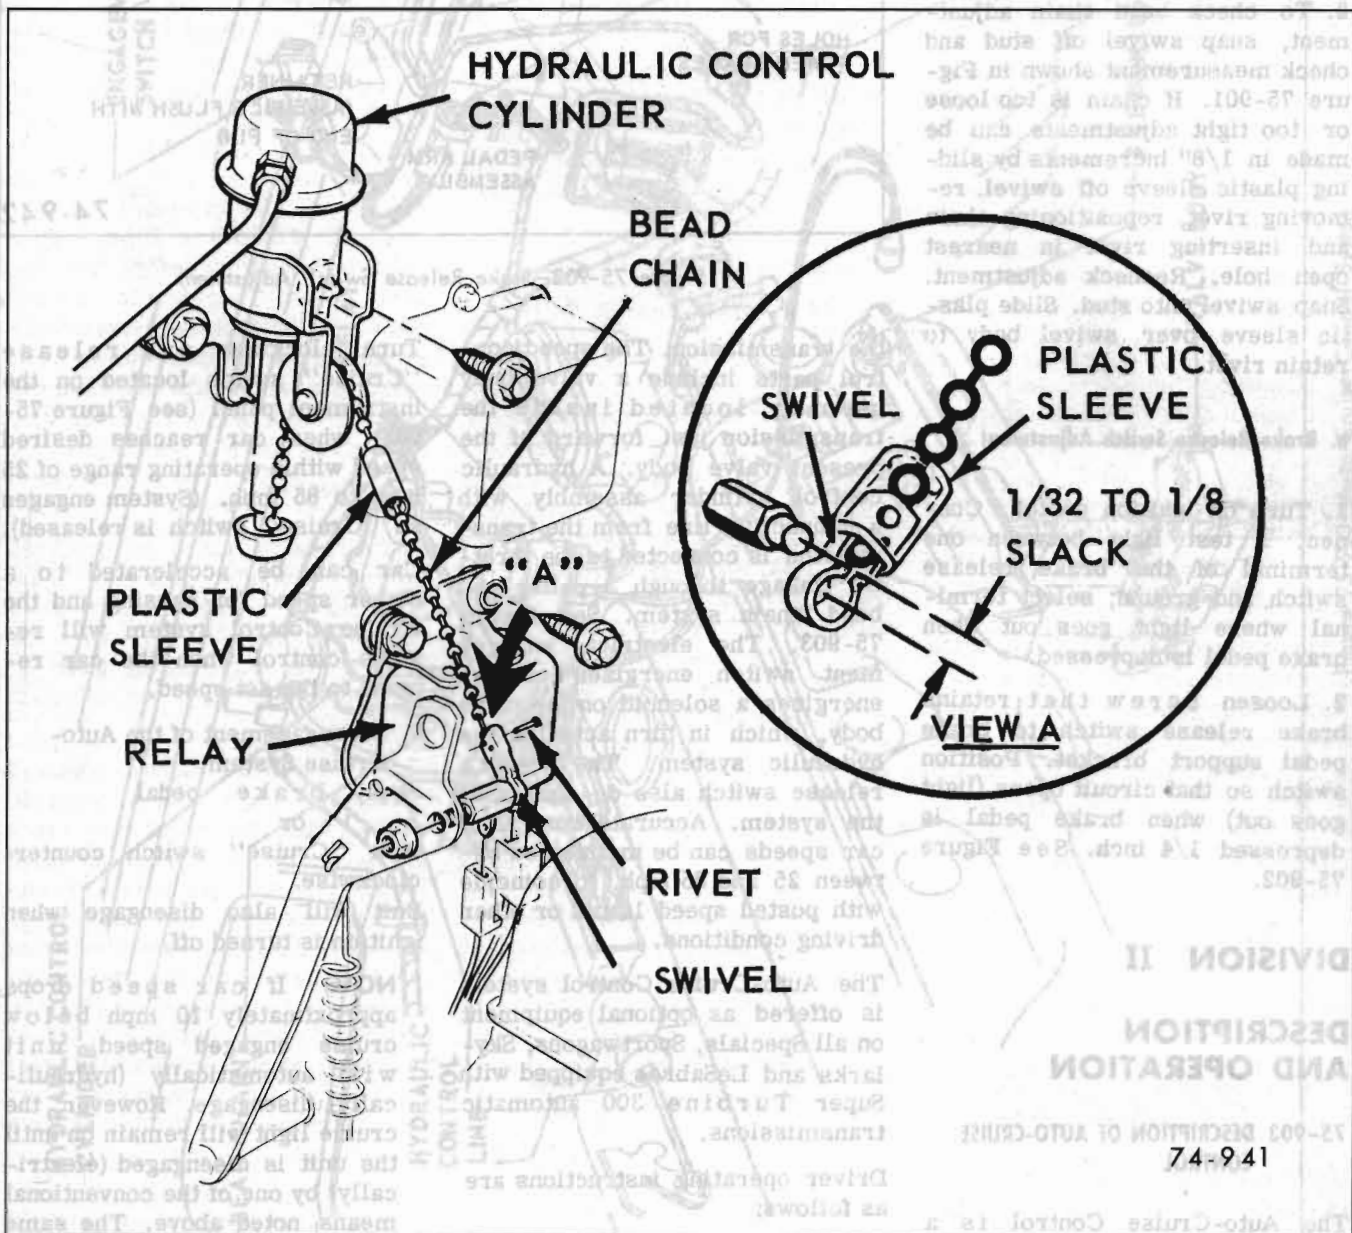

Figure 75-901—Bead Chain Adjustment
2. To check bead chain adjustment, snap swivel off stud and check measurement shown in Figure 75-901. If chain is too loose or too tight adjustments can be made in 1/8" increments by sliding plastic sleeve off swivel, removing rivet, repositioning chain and inserting rivet in nearest open hole. Recheck adjustment. Snap swivel onto stud. Slide plastic sleeve over swivel body to retain rivet.